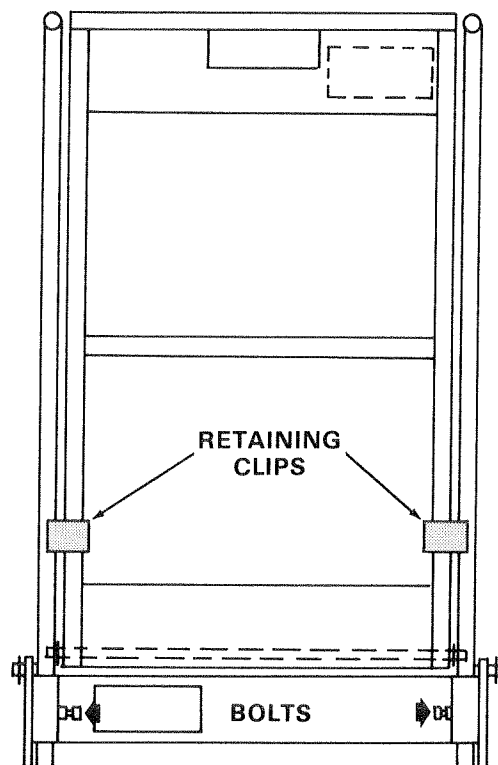

Figure 4. Installing Side Rails.
- b. Secure side rails by tightening bolts in pockets. Figure 4.